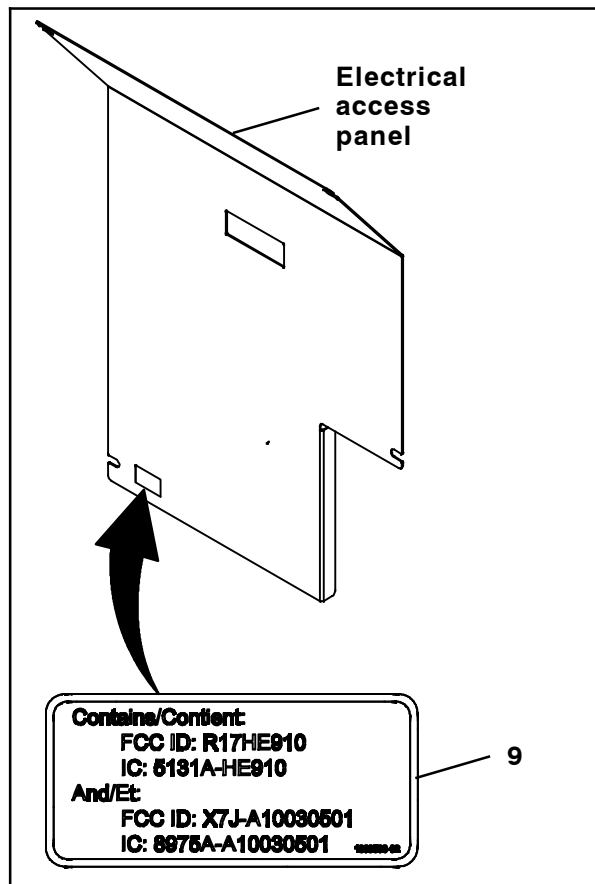

FIG. 23
25. Use cable ties (18) to secure the telemetry harness (14) and antenna (8) wire away from moving parts or areas where they can be damaged.
26. Install the telemetry label (9) onto the electrical access panel. (Fig. 23)